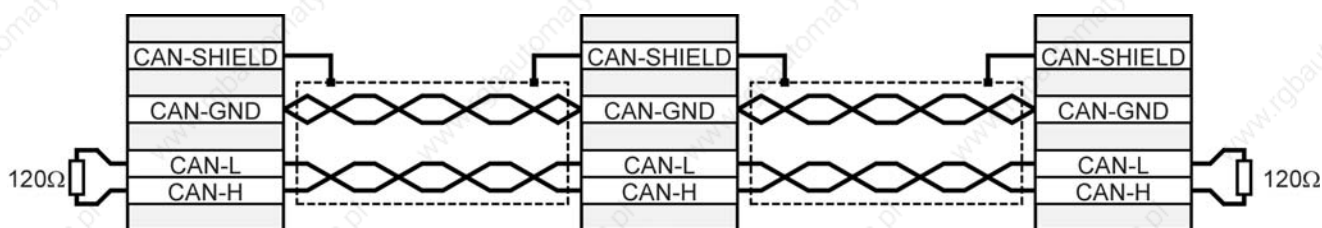

Figure 26: Cabling example for CAN-Bus
- ❖ The individual nodes of a network are always connected in line, so that the CAN cable is looped through from controller to controller (see Figure 26).